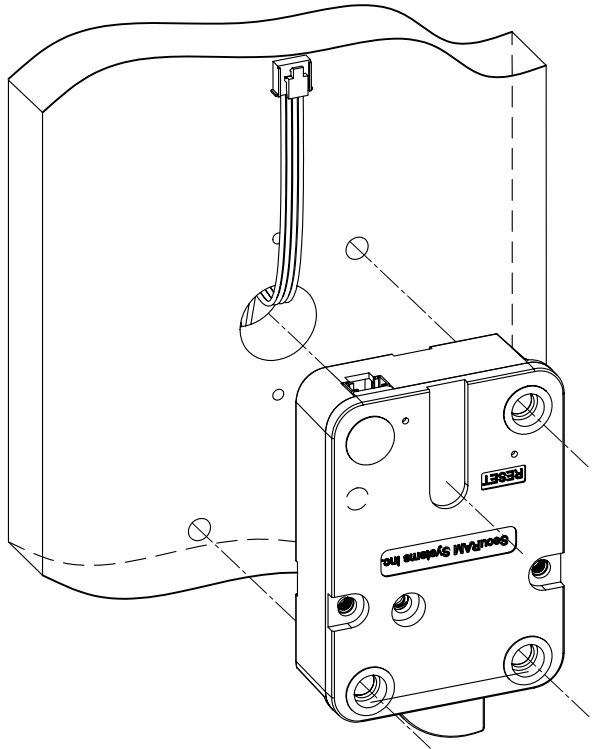

Figure 11
1. Drill and tap the mounting holes for US 1/4"-20 or M6 on the door or plate.(Figure 11)